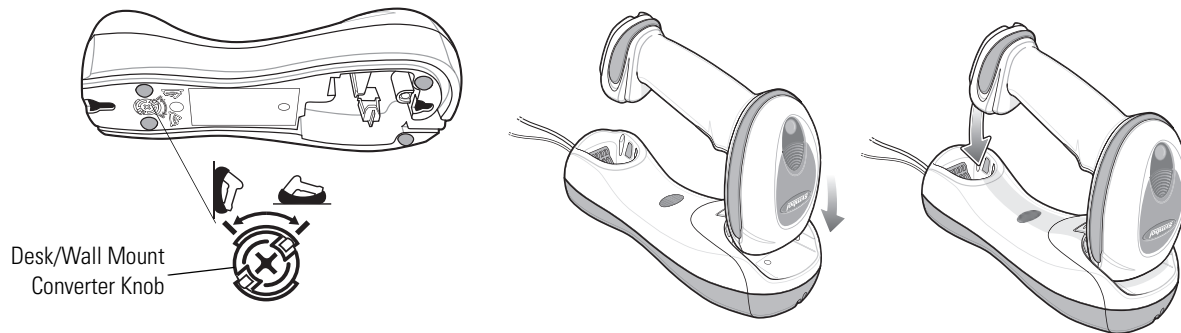

Figure 1-8. Horizontal Mount - Inserting the Scanner in the Cradle
2. Ensure the desk/wall mount converter knob is in the position shown in Figure 1-8.